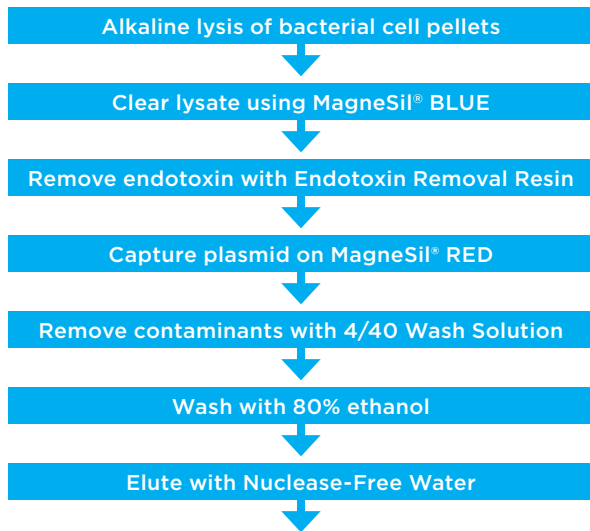
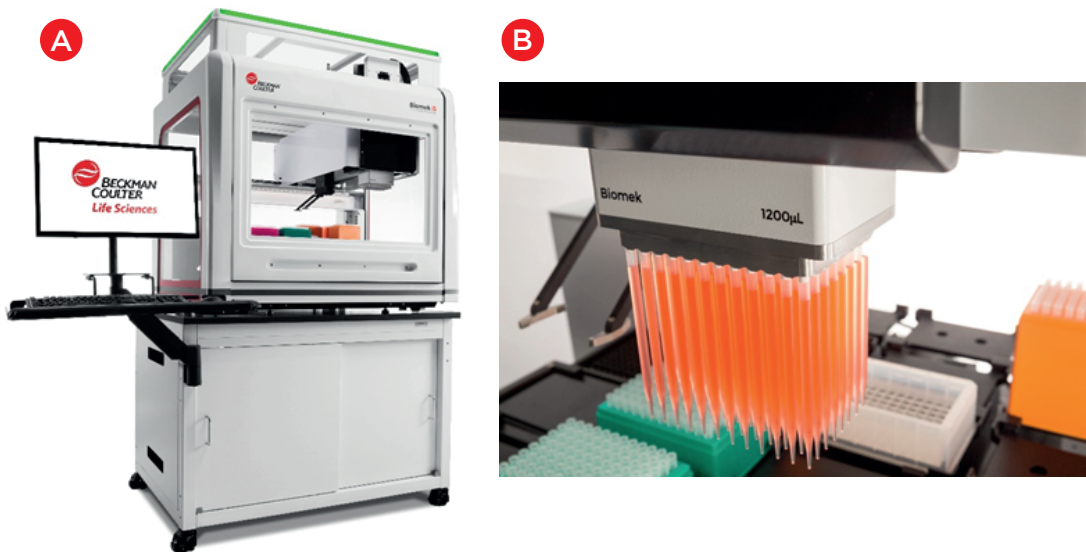

Figure 1. Workflow (A) of the Promega Wizard MagneSil Tfx™ Purification System workflow (B).
Figure 2. Biomek i5 Multichannel Automated Liquid Handler
The Promega Wizard MagneSil Tfx™ Plasmid Purification System is a simple, reliable method for the rapid isolation of plasmid DNA. The purified plasmid can be used in many molecular biological protocols, including Sanger sequencing and restriction enzyme digestion. Additionally, DNA purified using the Wizard MagneSil Tfx™ system contains low endotoxin levels, suitable for the transfection of mammalian cells. Purification of plasmid DNA using the MagneSil Tfx™ kit begins with alkaline lysis of bacterial cells. This is followed by clarification of the lysate and immobilization of plasmid DNA onto magnetic particles, allowing purification using a magnetic field (Figure 1). The immobilized plasmid samples are washed and then eluted with water to obtain purified plasmid DNA. As this kit employs magnetic separation rather than vacuum manifolds or centrifugation, it is well suited to automation. Here we automated the Wizard MagneSil Tfx™ System on a Biomek i-5 Multichannel liquid handler (Figure 2).
E. coli cells were cultured overnight at 37°C in LB medium. Once an OD₆₀₀ of 2.0 was achieved, cells were transferred to 16 individual wells of a 96-well deep well plate at 1 mL per well. Cells were pelleted by centrifugation for 15 minutes at 1,500 × g. The resulting supernatant was discarded, and the collected cells were used immediately in the automated plasmid purification method (Figure 1).
Each of the following liquid handling steps was performed using a Biomek i5 Multichannel liquid handler (Figure 2). For each well, cell pellets were resuspended in 90 μ L of Cell Resuspension solution. Lysis was performed by adding 120 μ L of Cell Lysis Solution, followed by the addition of 120 μ L of Neutralization Solution. Following lysis, 25 μ L per well of MagneSil BLUE was added, well contents were transferred to a new 96 well plate, and plate was placed on a MagnaBot[®] FLEX 96 Magnetic Separation Device. The resulting clarified lysate was added to a new 96 well plate containing 25 μ L of Endotoxin Removal Resin, mixed by orbital shaker, and returned to the MagnaBot. The resulting supernatant was transferred to a 96-well plate containing 50 μ L of MagneSil RED and 350 μ L of 100% isopropanol, mixed by orbital shaker for 5 minutes and returned to the MagnaBot, and the supernatant was discarded. The MagneSil RED resin was washed with 100 μ L of 4/40 Wash Solution followed by three washes with 100 μ L of 80% ethanol. The supernatant was discarded after each wash step. The MagneSil resin plate was then dried to remove excess ethanol for 7.5 min using a heating ALP. After drying, DNA was eluted by addition 100 μ L of Nuclease-Free Water, and the MagnaBot was used to separate eluted DNA supernatant from resin.